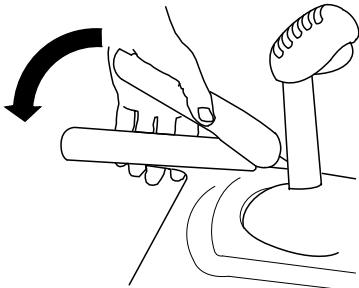

Figure 29
2. Engage the traction lever and hold it in place (Figure 29).